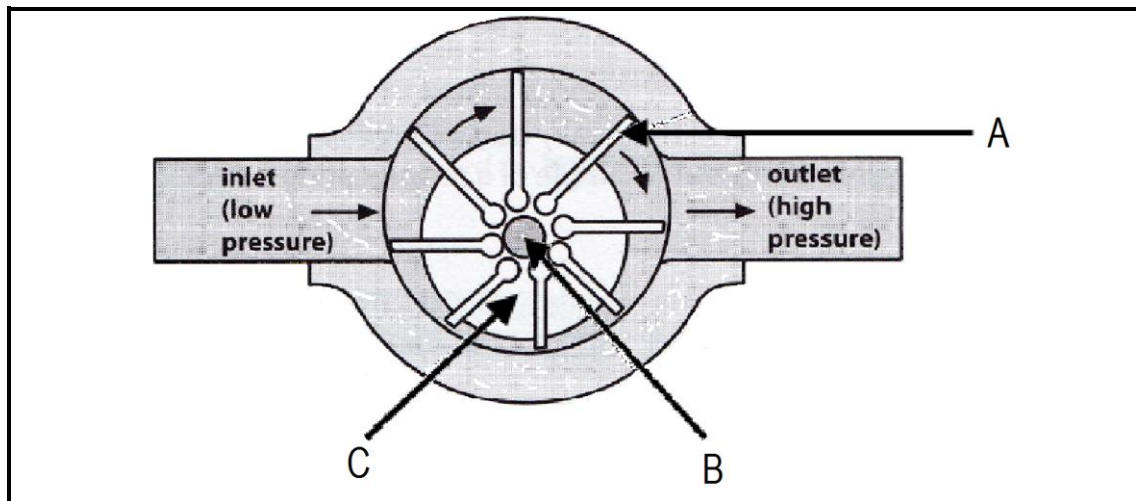

FIGURE 3
- 7.2 FIGURE 3 shows a diagram of a vane pump.